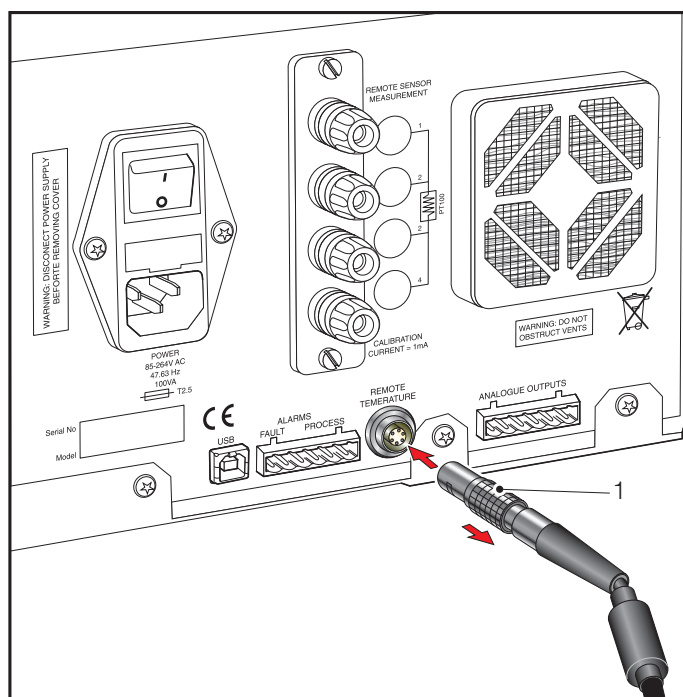

Figure 10 Remote PRT Connection
1. Rotate the body of the PRT probe connector until it locates in the socket labeled **REMOTE TEMPERATURE** (see *Figure 10*).
3. To remove the connector, slide the connector's body collar (1) back along its axis, away from the instrument to release the lock and then gently pull the connector body out of the socket. **Do not attempt to pull it out with the cable - make sure that the collar is first released.**